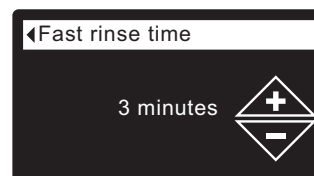

FIG. 85
- 8d. **Fast rinse time:** Press the UP (▲) or DOWN (▼) buttons to change the fast rinse time. Hold the button down to rapidly advance. The fast rinse time can be set from 1 to 30 minutes* (See Figure 85).